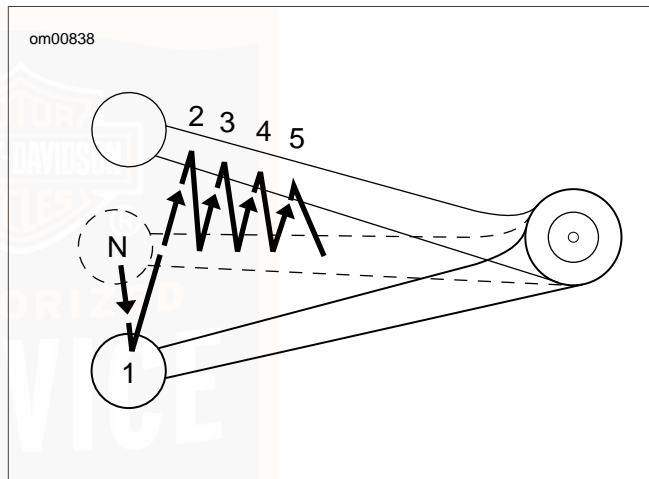

Figure 27. Upshift Sequence: Sportster Models
- See Figure 27. Lift the gear shift lever up to the end of its travel and release.